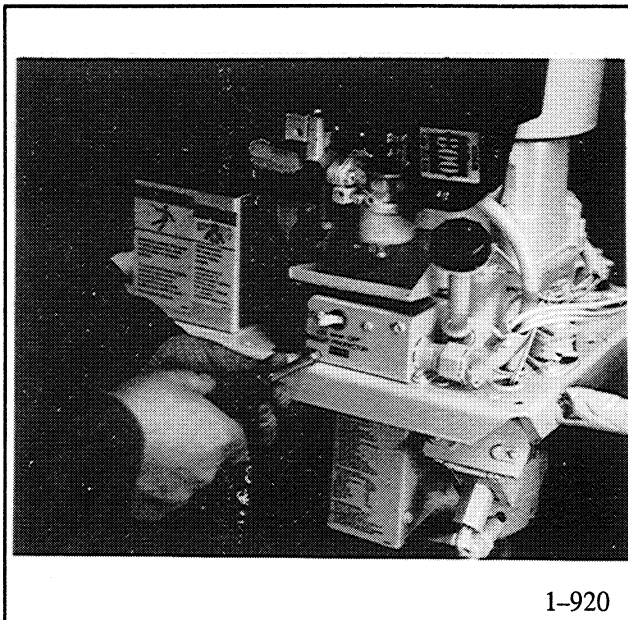

Figure 5-2. Circuit Breaker Box Cover.
3. Remove two screws securing cover to breaker box. (Figure 5-2).